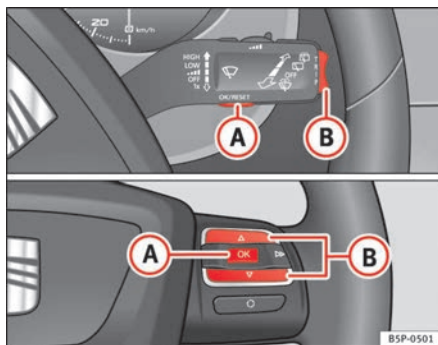

Fig. 39 Rocker buttons A and B. Steering wheel controls.
A **Service pre-warning** will appear in the mileage displays if a service is due soon. A “spanner” symbol appears and the display “km” with the distance that can be driven until the next service appointment is due. The display will change after approximately 10 seconds. A “clock symbol” appears and the number of days until the service appointment should be carried out. The following message is shown in the instrument panel display: **SERV. IN... KM OR... DAYS**. The service message will disappear approximately 20 seconds after the ignition is switched on or the engine is running. The normal display can be resumed by pressing the reset button on the trip counter or by pressing the rocker switch of the MFI ⇒ page 62, fig. 39 ②.
- When the ignition is on, briefly press button **A** on the windscreen wiper lever to change from one memory to another or press button **A** on the steering wheel controls \Rightarrow fig. 39.